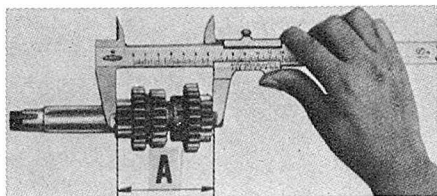

Fig. S14-13—Distance (A) should be checked if counter shaft is disassembled. Refer to text for proper length.
Second drive gear (24—Fig. S14-11) is pressed onto countershaft (20). Gear cluster must be measured (Fig. S14-13) to make certain of correct fit in cases. Distance (A) should be 78.20 MM (3.079 inch).